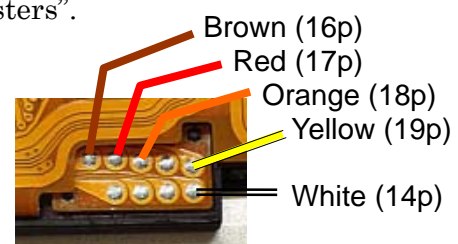

Fig.142
- 1) Solder 5 lead wires from the I/F buffer cable for 27250 (MZ-5) as shown in Fig.142.